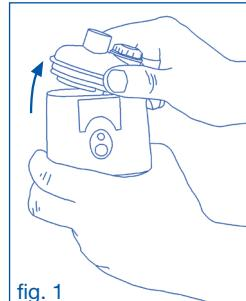

fig. 1
1. Remove the upper part (A3) from the unit body (fig. 1)
- *Separate the unit (A) from the power, disconnecting the power cable (G)*
- *Remove the top part (A3) from the body (Fig. 1) and the connected accessory.*